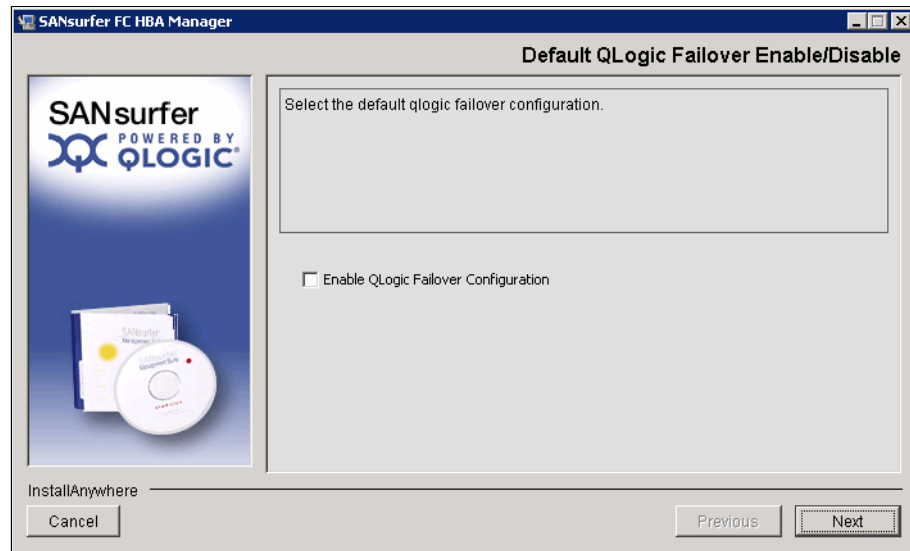

Figure 7-69 Default QLogic Failover Enable/Disable panel
8. In the Default QLogic Failover Enable/Disable panel (Figure 7-69), do not select **Enable QLogic Failover Configuration** because most SAN vendors have their own redundant drivers. For more information about the redundant driver, see the documentation provided by your SAN vendor. Then click **Next**.